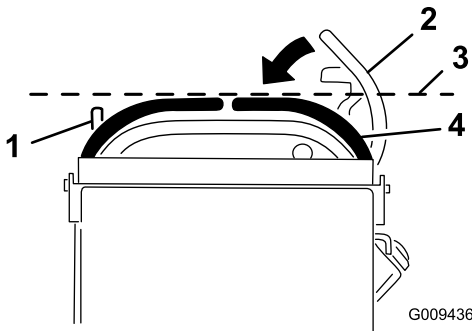

Figure 16
3. Push the right motion control lever down out of locked neutral position (Figure 16).
4. Check if it aligns horizontally with the left motion control lever (Figure 16).